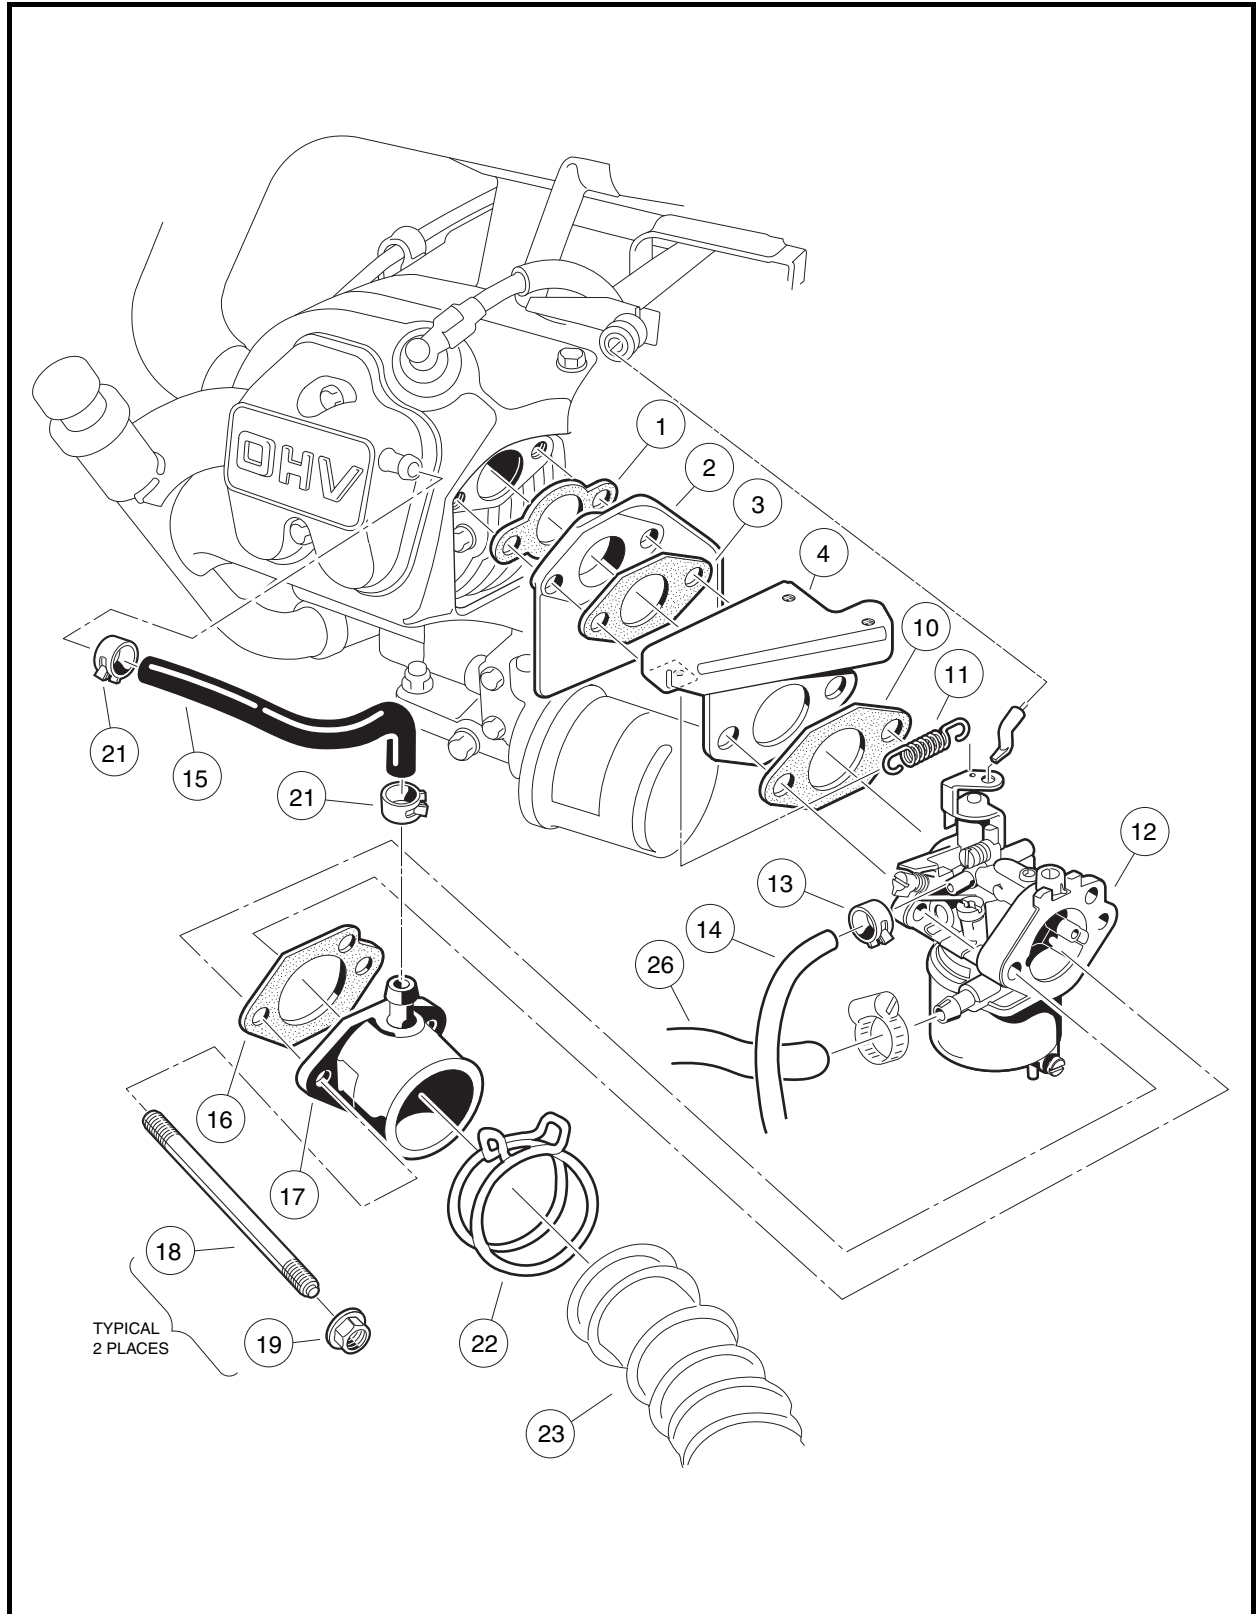

Figure 14-2 Carburetor Installation
1. Remove the carburetor (**Figure 14-2, Page 14-4**).
- 1.4. Loosen the intake air hose clamp (22) and disconnect the hose (23) at the carburetor end only (**Figure 14-2, Page 14-4**).
- 1.9. Remove the carburetor retaining nuts (19), intake pipe (17) and carburetor (12) (**Figure 14-2, Page 14-4**). **See following NOTE.**
**NOTE:** Note the orientation of the gasket (16), between the carburetor intake pipe (17) and the carburetor body (12) so that it can be replaced in the same orientation (**Figure 14-2, Page 14-4**).
12. Loosely attach the throttle return spring (11) to the carburetor throttle (12) and throttle bracket (4).
13. Install the carburetor (12), gasket (10), throttle spring (11), bracket (4), gaskets (1) and (3), and carburetor insulator (2) onto the manifold bolts (18) (**Figure 14-2, Page 14-4**).
14. Install the intake pipe gasket (16) (check for proper orientation) and intake pipe (17).
15. Attach the carburetor retaining nuts (19) and tighten them to 50 in-lb (5.7 N·m).
17. Connect fuel supply line (26) and tighten screw clamp to 9 in-lb (1.0 N·m) (**Figure 14-2, Page 14-4**).
18. Install carburetor vent line (14) and clamp (13).
20. Install the intake hose (23) and secure with hose clamp (22) (Figure 14-2, Page 14-4).